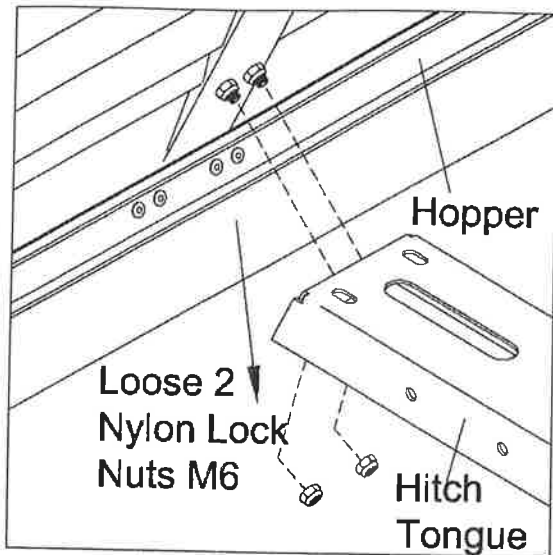

Figure 1
1. Loose two Nylon Lock Nuts M6 from the hopper, then attach the Hitch Tongue to the hopper using the removed Nylon Lock Nut M6 for fixing. See Figure 1 & 2.